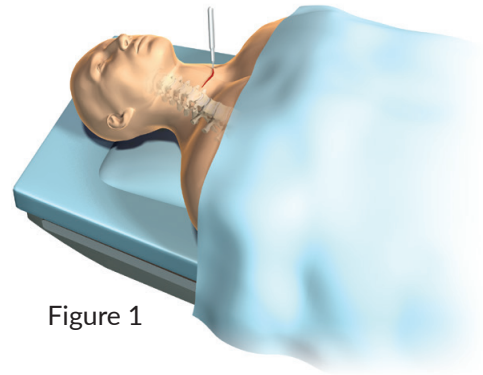

Figure 1
- Position the patient in the supine position with the neck extended to maintain cervical lordosis (Figure 1).